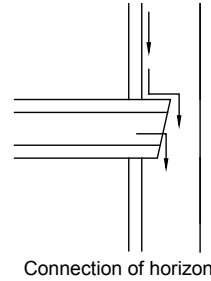

Fig.26
- NO.3: Attach the horizontal pipe as shown in Fig.26.